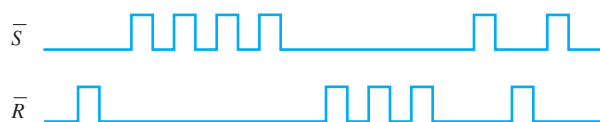

FIGURE 7-71
2. Solve Problem 1 for the input waveforms in Figure 7-71 applied to an active-LOW $\bar{S} - \bar{R}$ latch.